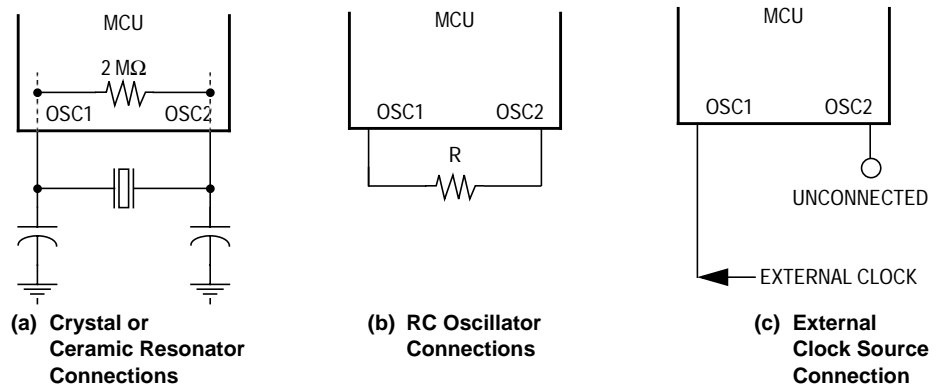

Figure 1-3. EPO Oscillator Connections
1. A crystal as shown in Figure 1-3 \(a\)
2. A ceramic resonator as shown in Figure 1-3 \(a\)
3. An external resistor as shown in Figure 1-3 \(b\)
4. An external clock signal as shown in Figure 1-3 \(c\)
The circuit in Figure 1-3 \(a\) shows a typical oscillator circuit for an AT-cut, parallel resonant crystal. The crystal manufacturer's recommendations should be followed, as the crystal parameters determine the external component values required to provide maximum stability and reliable startup. The load capacitance values used in the oscillator circuit design should include all stray capacitances. The crystal and components should be mounted as close as possible to the pins for startup stabilization and to minimize output distortion. An internal startup resistor of approximately $2\text{ M}\Omega$ can be provided by the shunt resistor mask option between OSC1 and OSC2 for the crystal type oscillator. The crystal configuration is enabled by choosing the crystal selection in the oscillator connections mask option.
In cost-sensitive applications, a ceramic resonator can be used in place of the crystal. The circuit in **Figure 1-3 (a)** can be used for a ceramic resonator. The resonator manufacturer's recommendations should be followed, as the resonator parameters determine the external component values required for maximum stability and reliable starting. The load capacitance values used in the oscillator circuit design should include all stray capacitances. The ceramic resonator and components should be mounted as close as possible to the pins for startup stabilization and to minimize output distortion. An internal startup resistor of approximately 2 M Ω can be provided by the shunt resistor mask option between OSC1 and OSC2 for the ceramic resonator type oscillator. The ceramic resonator configuration is enabled by choosing the crystal selection in the connections oscillator mask option.
The lowest cost oscillator is the RC oscillator configuration where a resistor is connected between the two oscillator pins as shown in **Figure 1-3 (b)**. The internal startup resistor of approximately 2 M Ω is not recommended between OSC1 and OSC2 for the RC-type oscillator.
An external clock from another CMOS-compatible device can be connected to the OSC1 input, with the OSC2 input not connected, as shown in **Figure 1-3 (c)**. This configuration is possible regardless of whether the crystal/ceramic resonator or RC oscillator configuration is used.